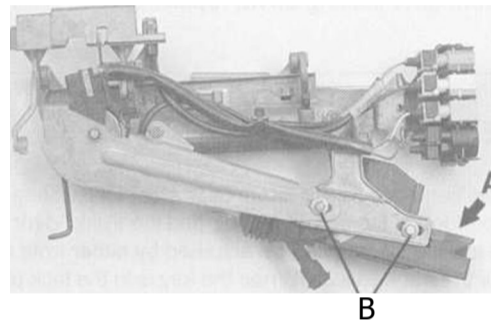

Fig. 3. Harness connection point (A). Front door lock drive mounting screws (B).
3. Remove screws and lift out locking drive. See Fig. 3.